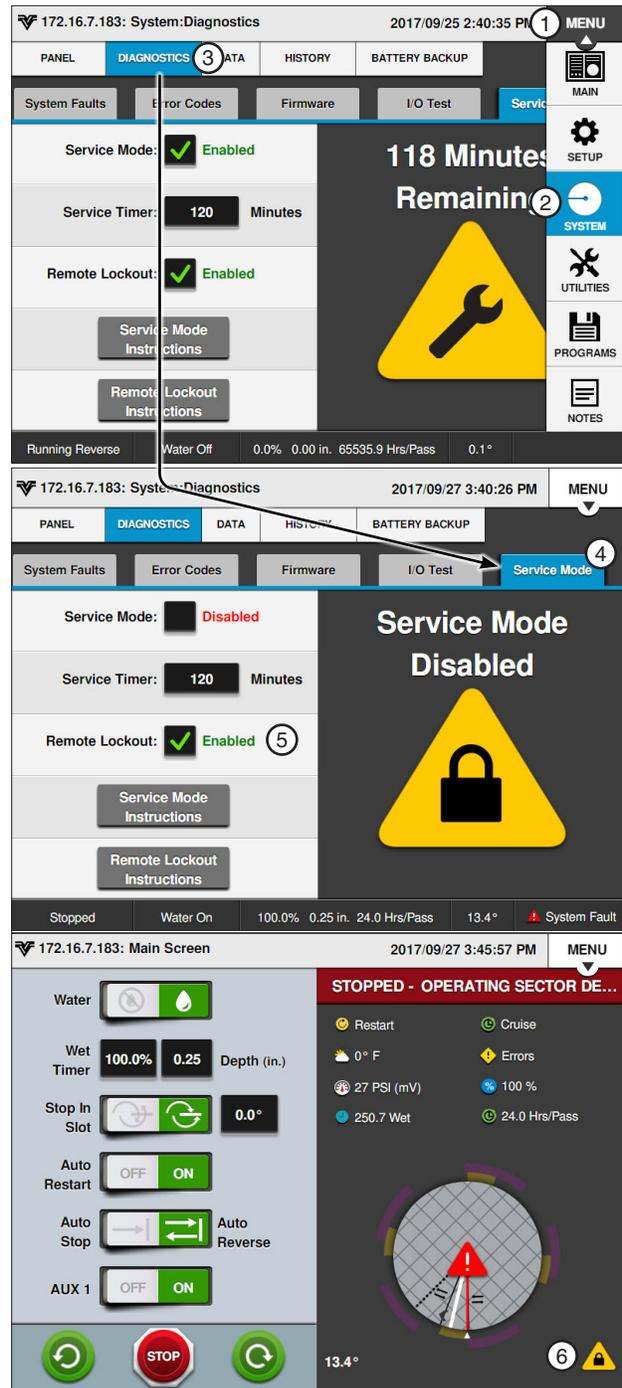

Figure 56-1 1. Menu 2. System 3. Diagnostics 4. Service Mode 5. Remote Lockout Checkbox 6. Remote Lockout Icon
1. Push **Menu**, **System**, **Diagnostics**, **Service** and **Service Mode** to display the Service Mode screen. Refer to Figure 56-1.